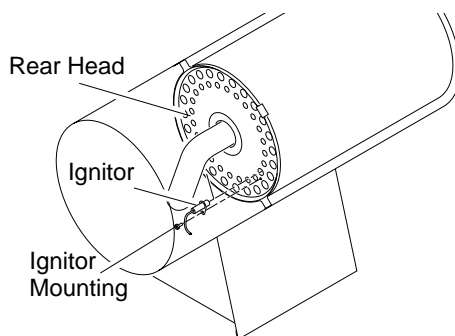

Figure 14 - Removing Ignitor Mounting Screw and Ignitor
- Remove ignitor mounting screw from rear head using nut-driver or standard screwdriver (see Figure 14).